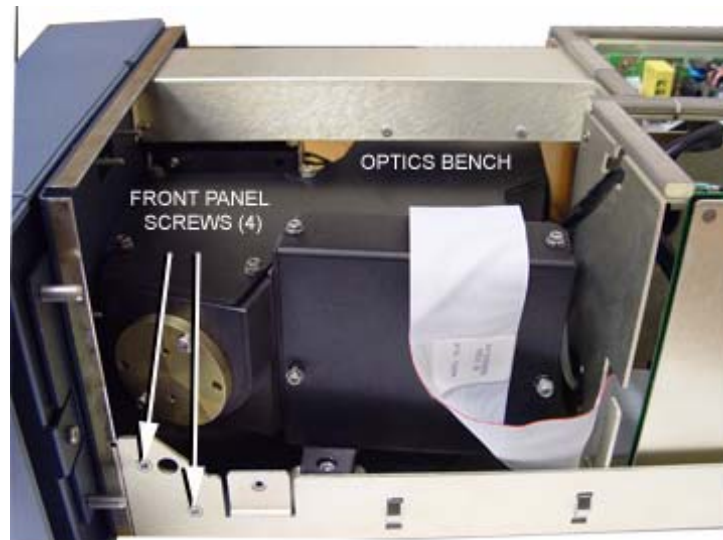

Figure 11 - Front Panel Screw Locations
9. Slide the front panel/bezel assembly into the chassis and secure it with four T20 Torx screws, two screws on each side (Figure 11).